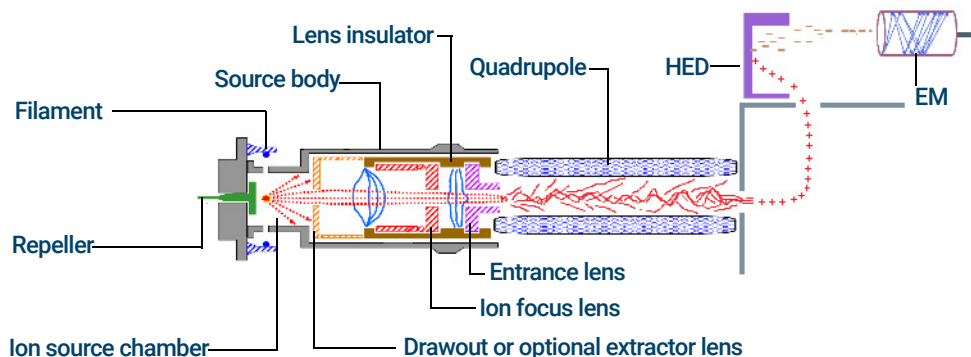

Figure 4. MSD analyzer components
The ionization of a sample occurs in the ion source that is shown, schematically, on the left in **Figure 4**. In this case, the source used is an electron ionization (EI) source, which ionizes the sample with a charged filament.